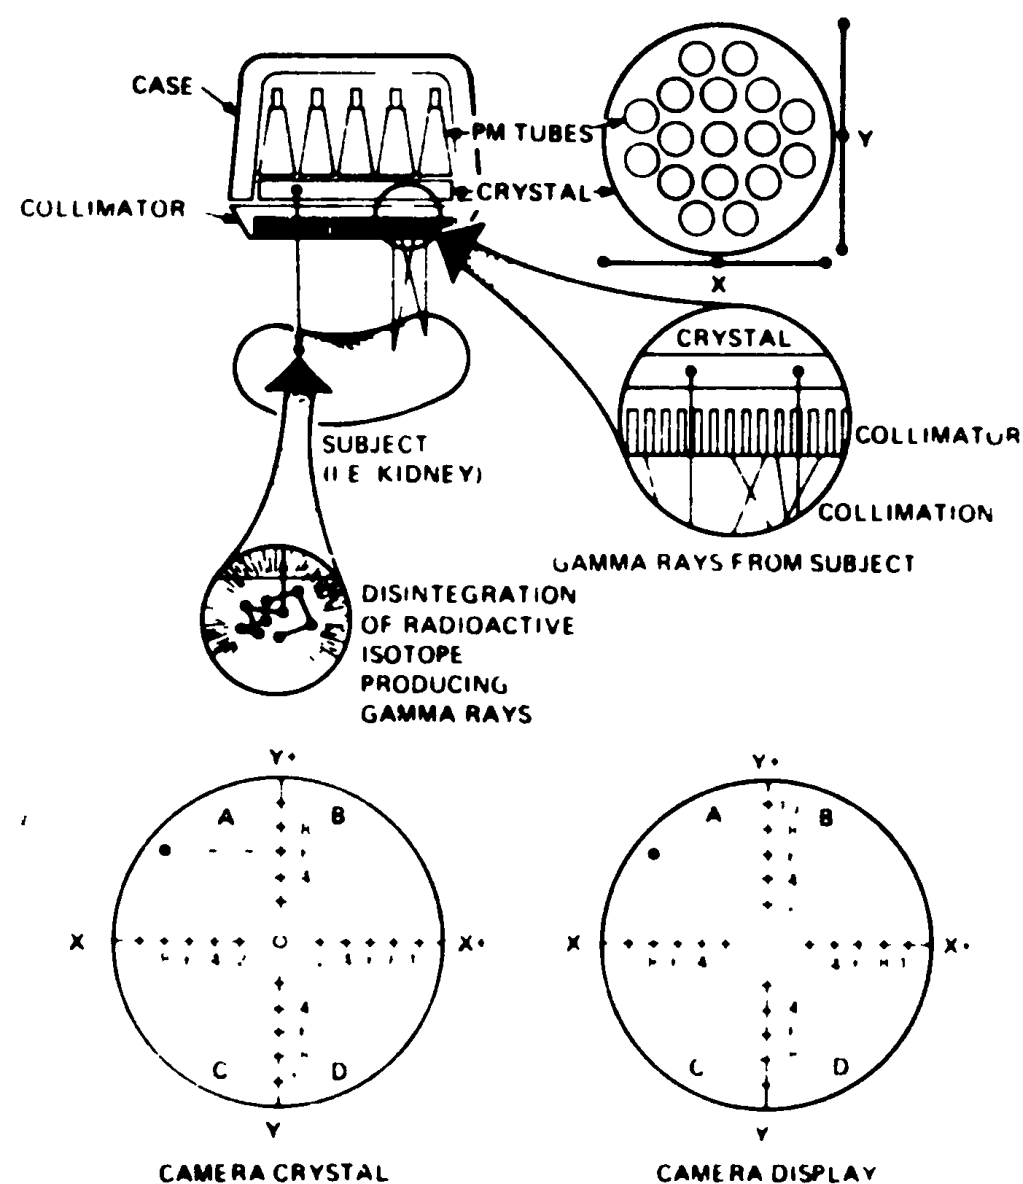

Figure 1-5 Gamma Ray Collimation and Display
- a Figure 1-5 represents the face of the crystal and the face of a display, both divided into four quadrants. Each quadrant ranges from 0 V to plus 10 V or minus 10 V.